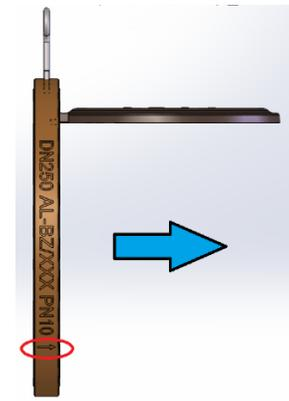

Figure 2, Flow direction
1. Lift and hold the swing check valve into place using the eye bolt. If installed horizontally, make sure that the eye bolt is pointing upwards. Make sure that the arrow on the valve (see figure 2) is pointing in the correct direction.